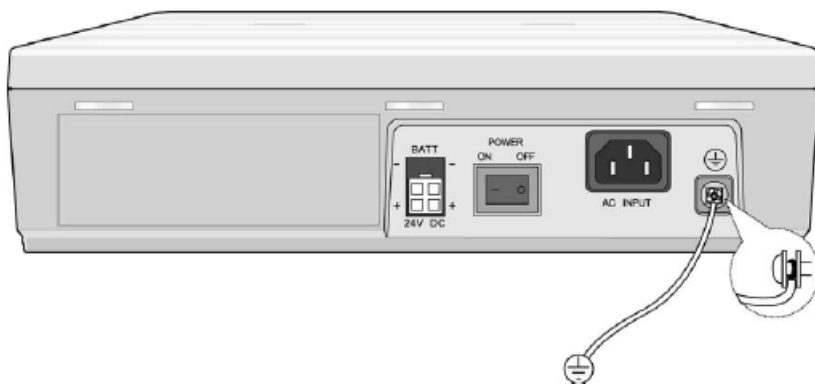

Figure 3-3 Grounding the KSU
1. Turn the grounding screw counter clockwise to loosen it (as shown in Figure 3-3).